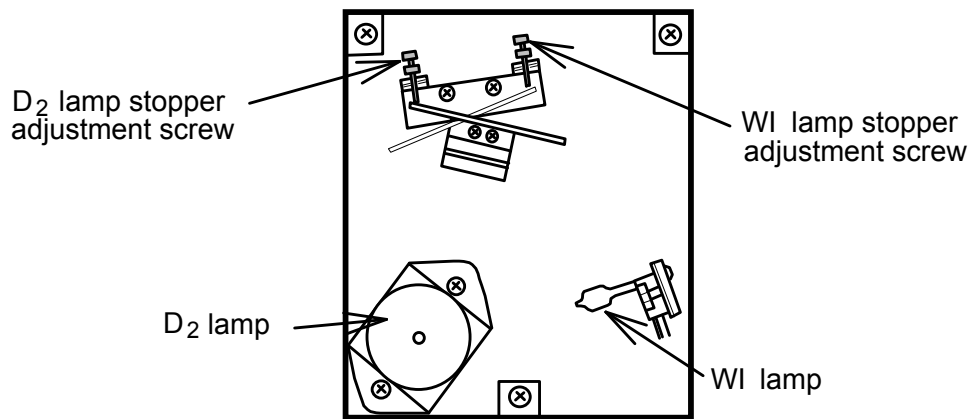
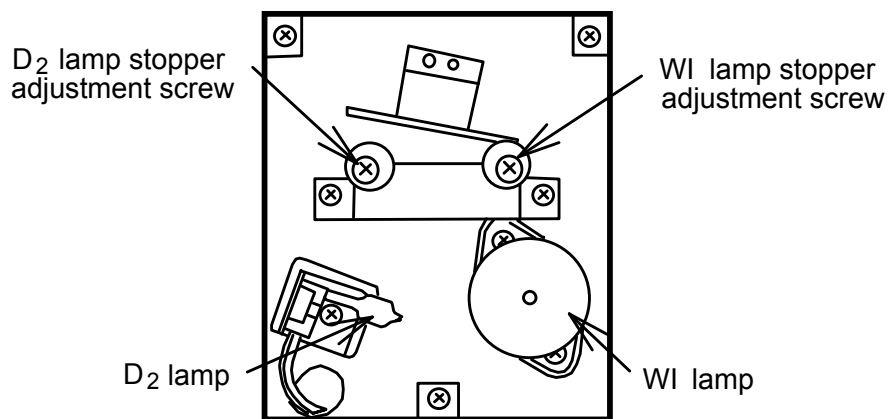

Figure 4.9 Light source unit (V-530)
Figure 4.10 Light source unit (V-550/560/570)
- (2) Pull out the Halogen lamp from the socket (Fig. 4.9 or Fig. 4.10).
- (3) Insert a new Halogen lamp into the socket.
- (4) For the DS type, adjust the light source mirror as described in Section 4.5.2.2.
- (2) Pull out the Deuterium lamp from the socket (Fig. 4.9 or Fig. 4.10).
- (3) Insert a new deuterium lamp into the socket.
- (3) Turn the WI lamp stopper adjustment screw (Fig 4.9 or Fig, 4.10) and search for a position where the data value (value displayed on the CRT) is maximum.
- (4) Replace the inner lid and outer lid of the light source unit.
- (3) Turn the D₂ lamp stopper adjustment screw (Fig 4.9 or Fig, 4.10) and search for a position where the data value (value displayed on the CRT) is maximum.
- (5) Return to the single beam measurement screen and set the wavelength to 500 nm using the [Goto WL] key on the operation panel.
- (6) Turn the W1 lamp stopper adjustment screw (Fig 4.9 or Fig, 4.10) and search for a position where the data value (value displayed on the CRT) is maximum.
- (7) Replace the inner lid and outer lid of the light source unit.
- (5) Return to the single beam measurement screen and set the wavelength to 250 nm using the [Goto WL] key on the operation panel.
- (6) Turn the D₂ lamp stopper adjustment screw (Fig 4.9 or Fig, 4.10) and search for a position where the data value (value displayed on the CRT) is maximum.